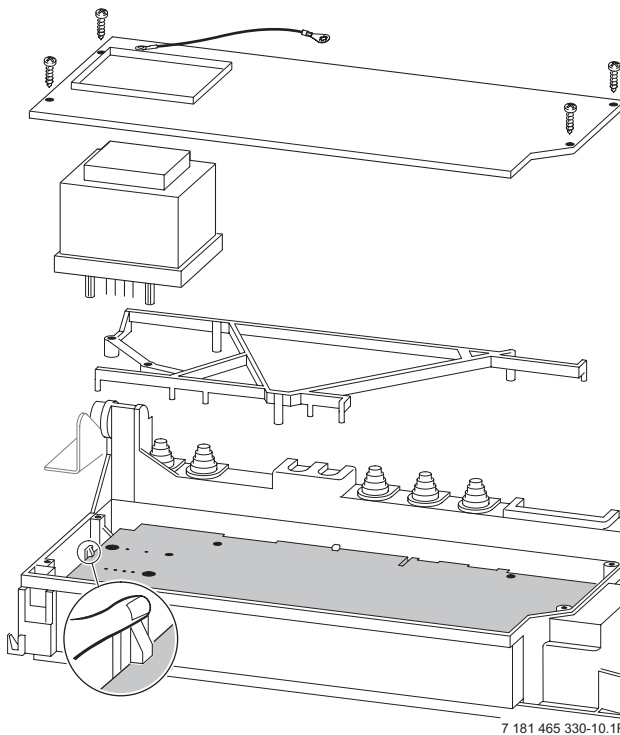

Fig. 56
- Unscrew four fixing screws from cover plate. Refer to fig. 56.